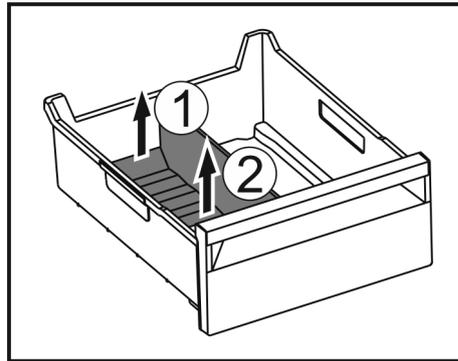

Fig. 99
- ▶ Lift the rear part of the ice compartment divider. Fig. 99 (1)
- ▶ Remove the ice compartment divider upwards. Fig. 99 (2)